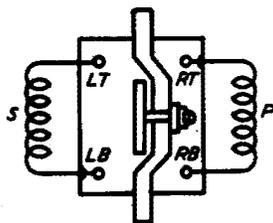

Fig. 1 - Winding Terminal Arrangement as Viewed From the Front (contact side) — A-, E-, F-, H-, M-, R-, T-, AB-, EA-, and 236-Type Relays
2.05 The first letter (L, R, C, or Y) locates the winding terminal with respect to the core as shown in Fig. 1. Where no more than two winding terminals are located in the top or bottom spring assembly, the designations L and R are used, L indicating a terminal to the left and R a terminal to the right of the core as viewed from the front of the relay. Where there are more than two winding terminals in one of these spring assemblies, the designations C and Y are also used. The C terminal, like the L, is located to the left of the core as viewed from the front. The Y terminal, like the R terminal, is located to the right of the core. The portions of the terminals to which connections from the front may be made are located between the rear spoolhead and the rear of the relay. The test connecting points on the C and Y terminals are located farther to the rear than the corresponding portions of the L and R terminals.